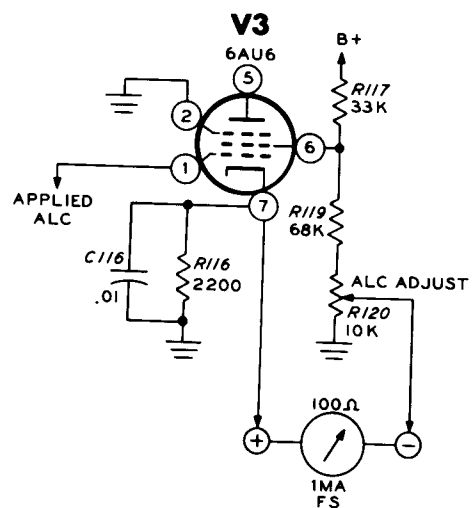

Figure 6-18
**Automatic Level Control (Figure 6-18)**